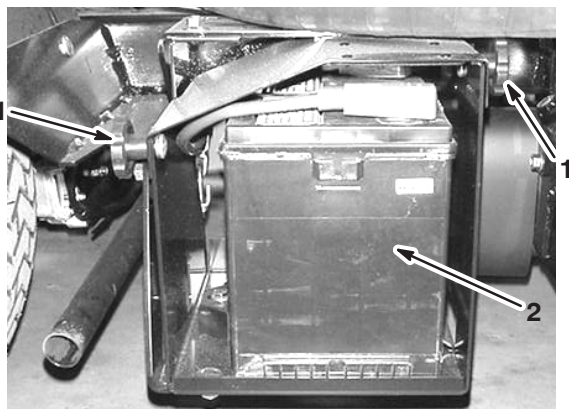

Figure 61
2. Loosen the knobs on the sides of the battery box and remove the battery cover (Fig. 61).
3. Remove the battery retainer and fasteners (Fig. 61).
3. Install the battery retainer and secure it with the fasteners you removed previously (Fig. 61).
4. Install the battery cover and secure it with the 2 knobs (Fig. 61).
1. Loosen the knobs on the sides of the battery box and remove the battery cover (Fig. 61).